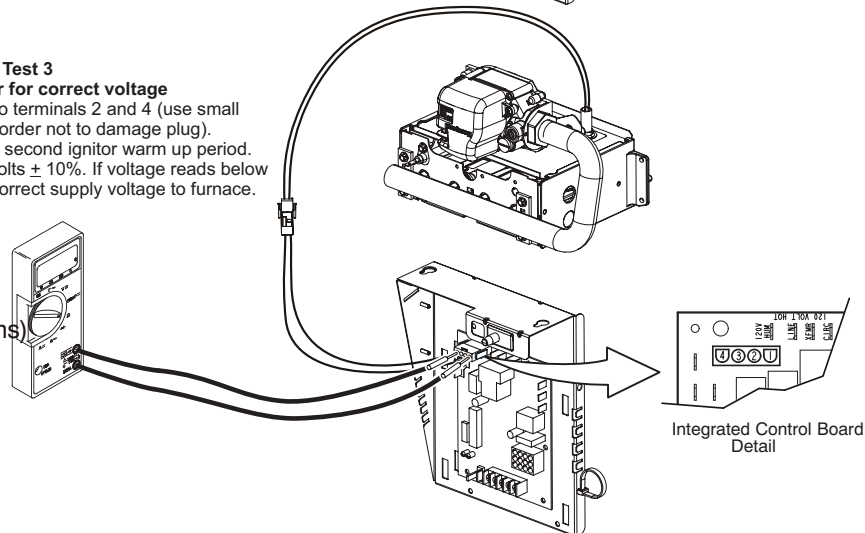

FIGURE 10
The nitride ignitor is made from a proprietary ceramic material. To check ignitor, measure its resistance and voltage. A value of 39 to 70 ohms indicates a good ignitor. Voltage to the ignitor should be 120VAC. See FIGURE 10 for resistance, and voltage check.
- 3 - Mount new motor control module to motor using two hex head bolts removed in figure 10. Torque bolts to 22 inch pounds or 1/16th clock wise turn.